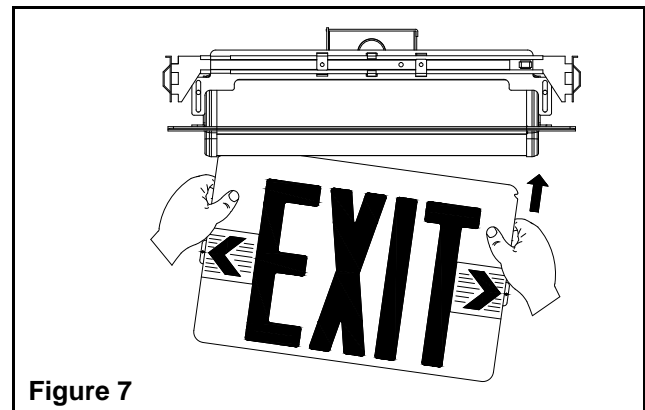

Figure 7
13. Insert EXIT panel into main body assembly gently. If EXIT panel is for a single face, make sure EXIT letter direction is correct (see figure 7).
5. Insert EXIT panel into main body assembly gently. If EXIT panel is for a single face, make sure EXIT letter direction is correct (see figure 7).